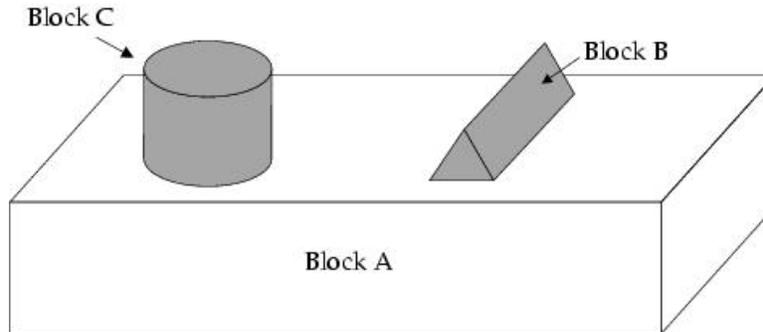

Figure 8.5.8: Multiple Blocks in Contact
When a prism block is in surface contact with a cylinder, polygon, ellipsoid, or elliptical cylinder block (see Figure 8.5.8), the rules outlined above governing blocks with coincident surfaces apply:
- If one (or both) blocks is non-conducting, no heat transfer occurs between the blocks, and **Airpak** computes heat transfer only from those surfaces exposed to the enclosure fluid as specified for each block. In Figure 8.5.8, for example, if Block A is a nonconducting solid block and Blocks B and C are conducting blocks, heat is not allowed to flow from Block B to Block C (or vice versa) through Block A. Furthermore, the entire heat flux (if any) specified for Blocks B and C is transferred to the fluid through the non-coincident surfaces.